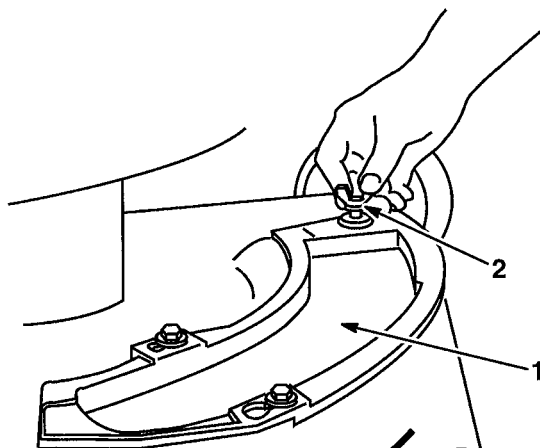

Figure 31
2. Remove wing screw that fastens cover plate to housing (Fig. 31).